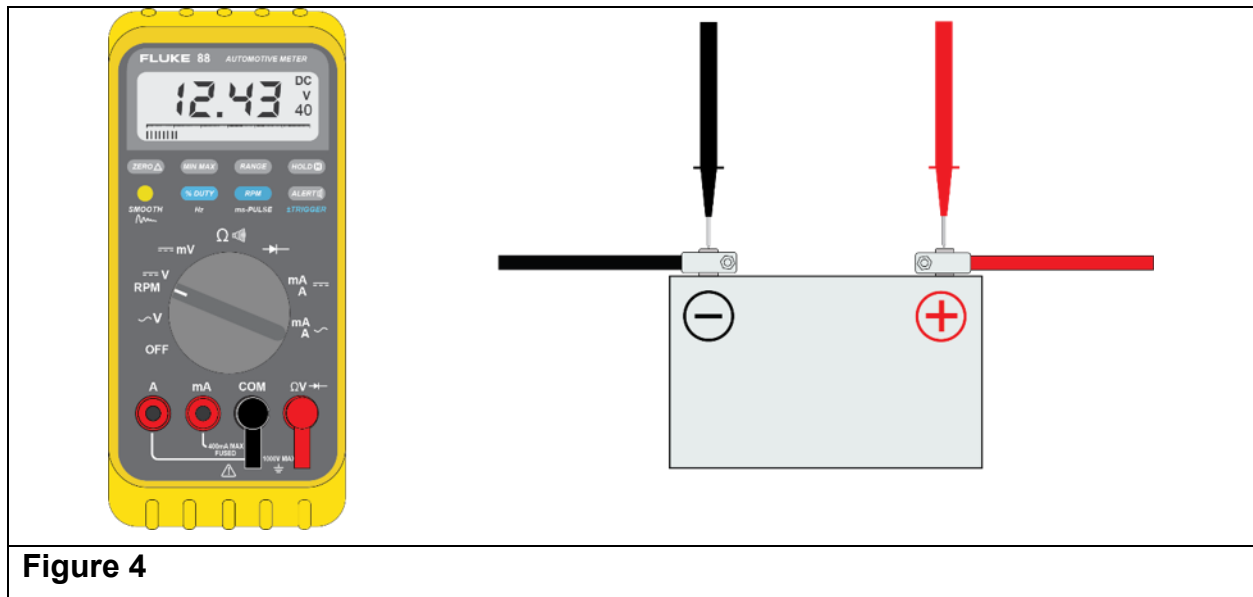

Figure 4
5. Apply a load of 1/2 the CCA rating for 15 seconds and take a voltage reading at the end of the load test from the load tester itself (if equipped with voltmeter) or by connecting a digital multi-meter to the battery positive and negative posts, before releasing the load. (See Figure 4.) Turn off load and wait for 15 seconds to allow the battery to recover before repeating test, if necessary.